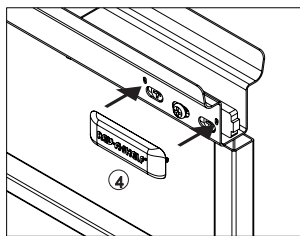

fig. 13
15) The first adjustment is the left to right tilt. By tightening the front screw and loosening the back screw, the door will tilt out on the left. The reverse is true if you loosen the front screw and tighten the back screw, the door will tilt out on the right. Once you get this tilt adjustment correct, tighten the center screw both top and bottom. Now snap on the logo cap (#4) to cover this hardware on the top. See figure 13.